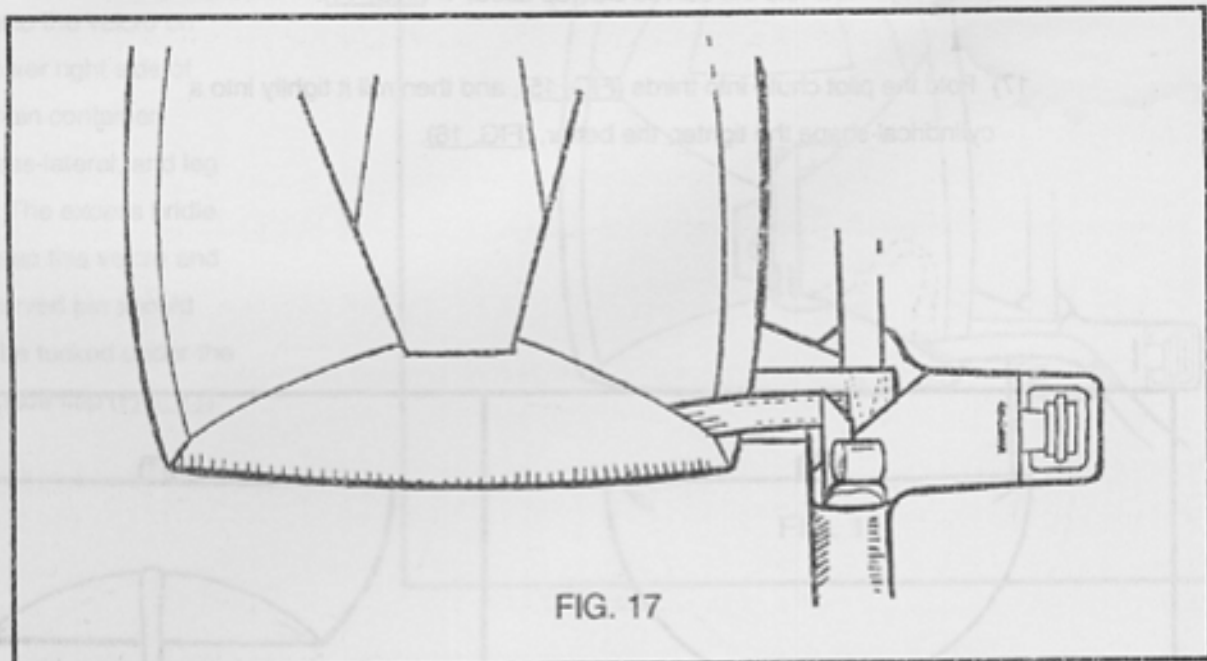

FIG. 17
- 18) Stuff the rolled pilot chute completely into the pouch, making sure that the handle sticks out the top for an easy grip (See FIG. 17)